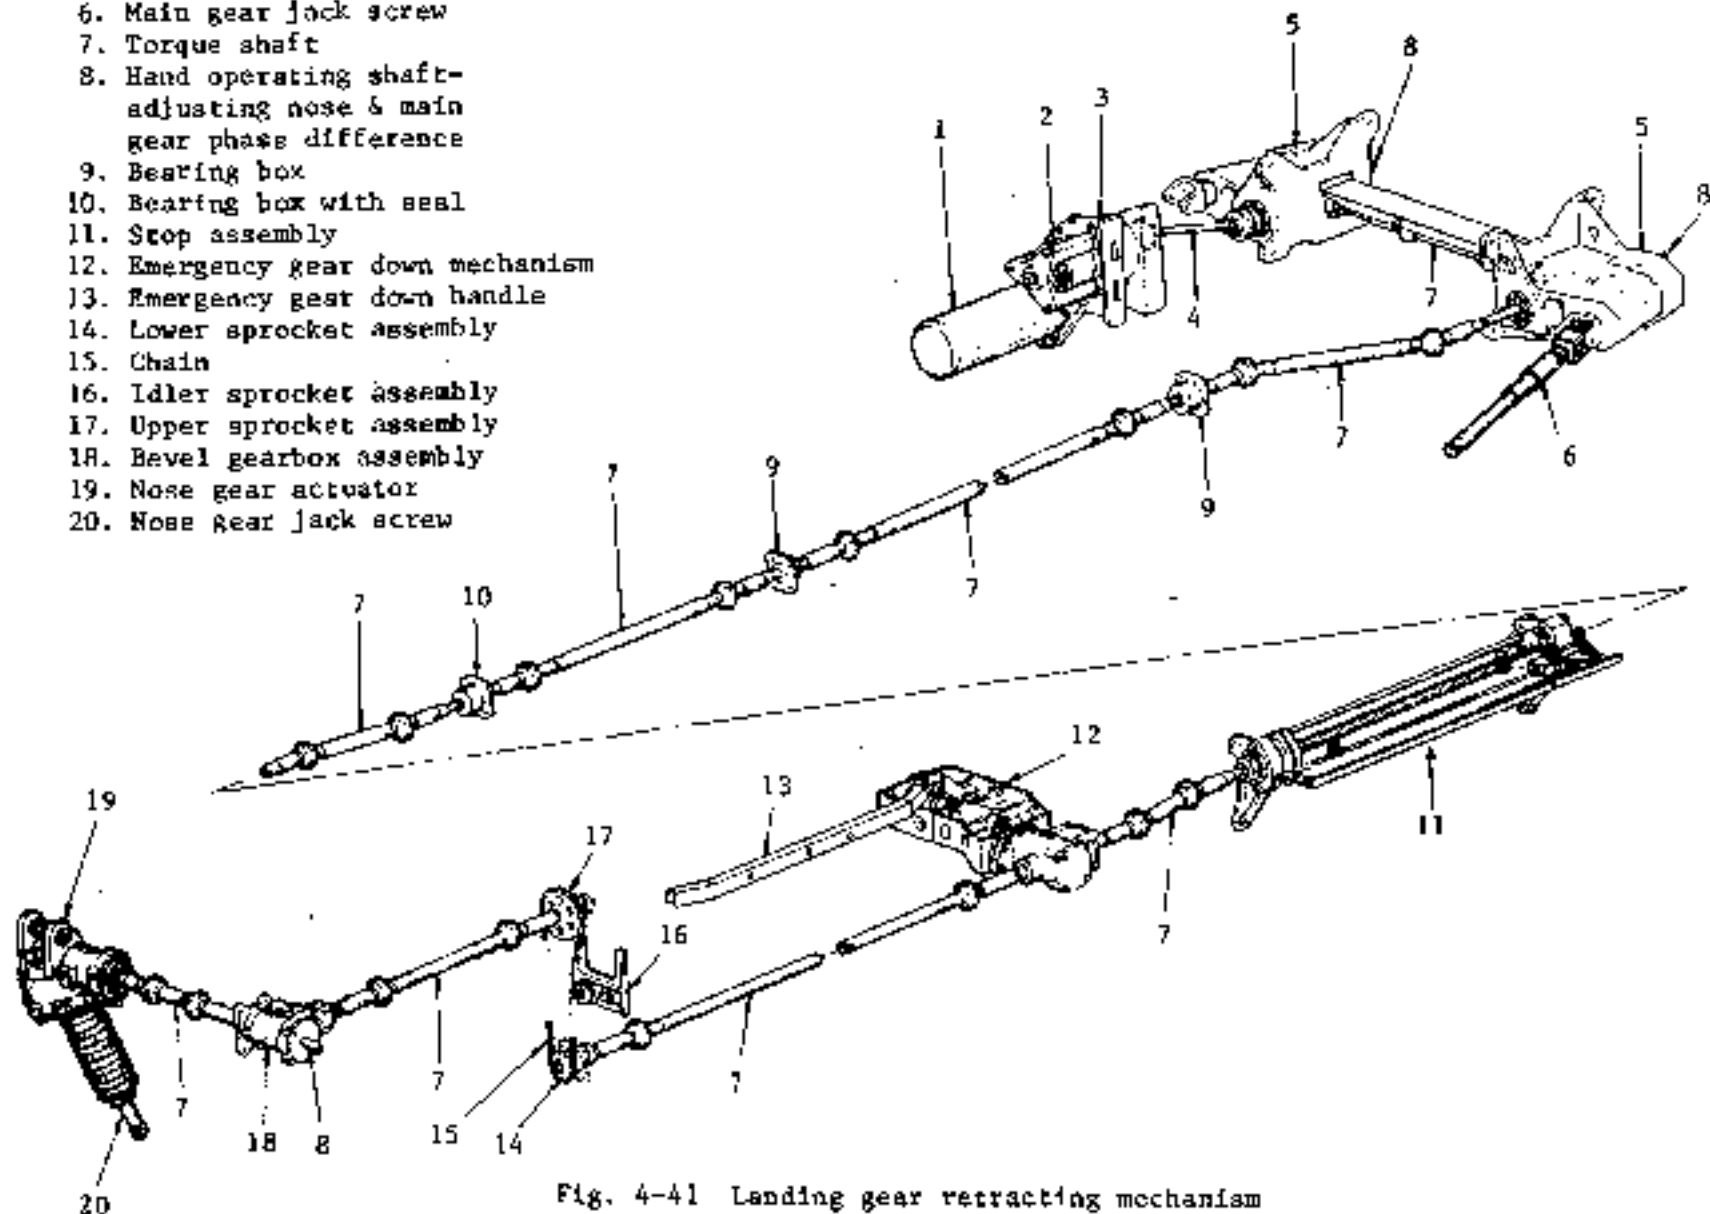

Fig. 4-41 Landing gear retracting mechanism
4.1 GENERAL DESCRIPTION (See Fig 4-41)
- (1) In advance of removing nose gear actuator, extend landing gear slowly with no load and no inertia. (hand operating shaft at the back end of gearbox and drag strut support may be used, see Fig 4-41).
4.5.1 REMOVAL AND INSTALLATION (Fig 4-41)
- (2) Remove access panels and cabin floor necessary to remove and install torque shafts.
- (3) Ball joint assembly.
(4) Torque shaft assembly
- (a) Remove stop bolts, cotter pins, nuts and washers in Fig 4-41.
- (d) The torque shaft assembly of main gear forward door mechanism, in Fig 4-41 can not be slid, so remove connecting bolts, then pull out the shaft.